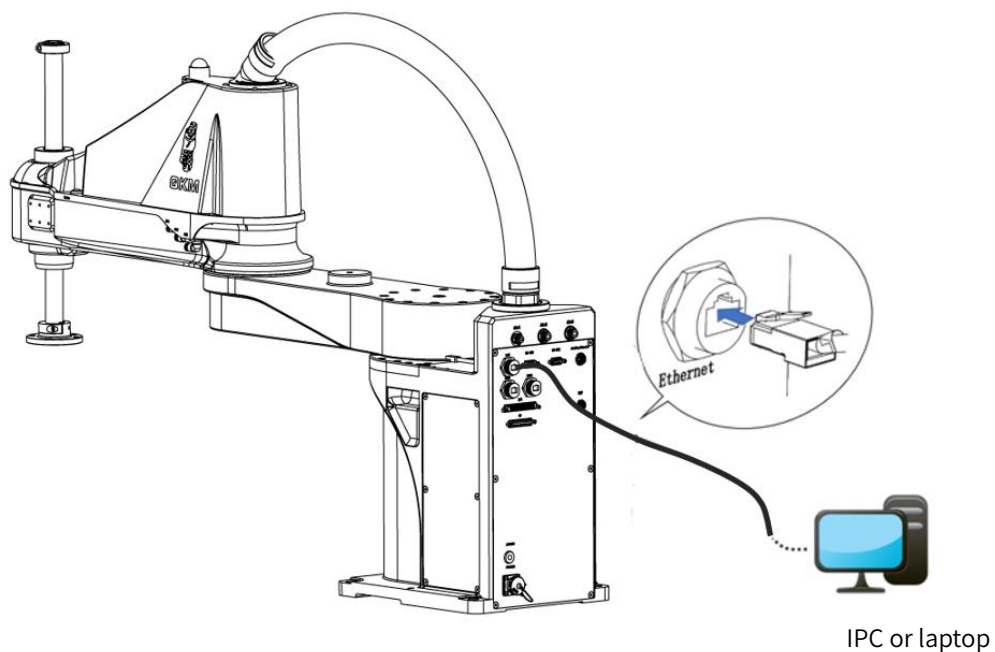

Figure 5-9 Schematic diagram of communication connection
Step 2 Insert the other end of the network cable into the PC or IPC port as shown in Figure 5-9.